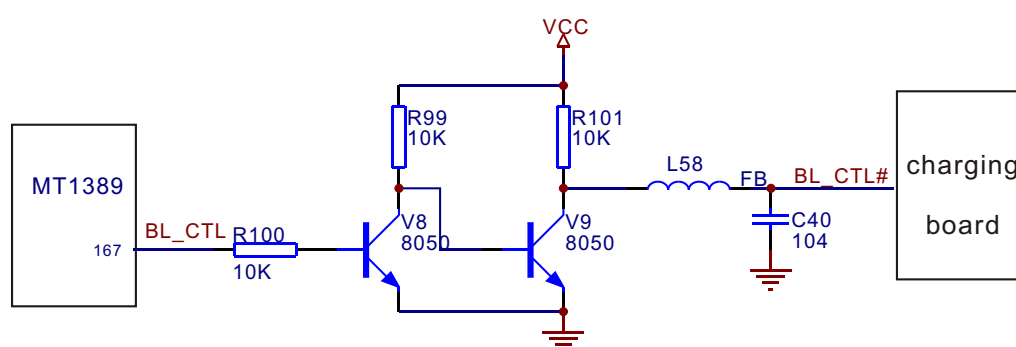

Figure 3.2.8.1 Boost detect and control circuit
1. Boost detect and control circuit is shown in the figure 3.2.8.1: